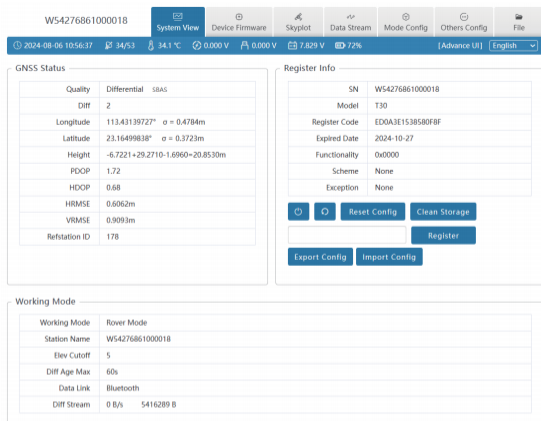

Figure 2.1-1
- ① GNSS Status: Quality, diff, Longitude, latitude, Height, accuracy, Ref station ID;
- ② Register info: SN, Model, Register Code, Expired Date, Functionality, Scheme, Exception;
- ③ Working mode: working mode, Station name, Elev cutoff, Diff Age Max, Data Link, Diff Stream.
- ④ Device Operation:
- 3) Registration code: The registration code is a valid time code that authorizes the device positioning function. When the registration code is found to have expired and the device positioning function is unavailable, you can obtain a new registration code from the supplier by providing the device number, enter it into this page, and click [Register] to register. The page effect is shown in Figure 2.1-1.